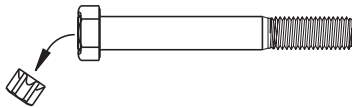

Figure 6: Shear bolt Torx head separation
7. Use an E20 Torx® socket to **tighten** the shear-type bolt until the bolt's Torx head shears off, as shown in Figure 6.